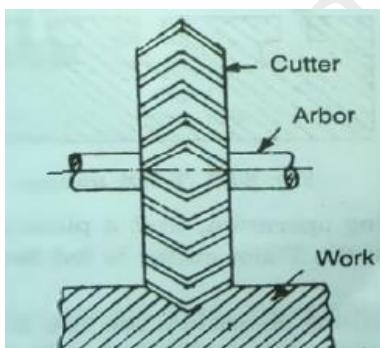

Fig. 8.54. Angular milling.
- **Angular milling:** In angular milling, an angle milling cutter is used (Fig. 8.54). The cutter used may be a single or double angle cutter, depending upon whether a single surface is to be machined or two mutually inclined surfaces simultaneously.